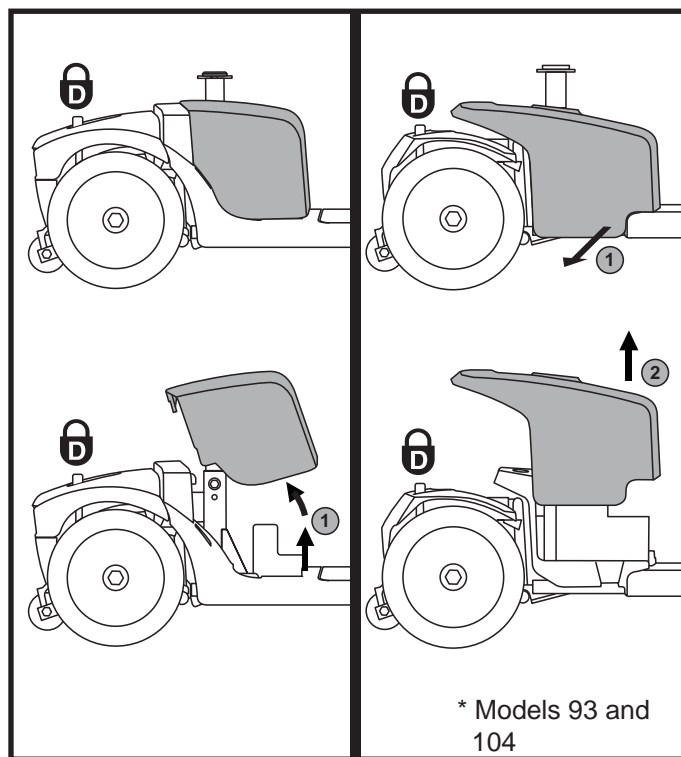

Figure 10. Battery Shroud Removal/Installation
1. Remove the seat and battery shroud. **See figure 10.**